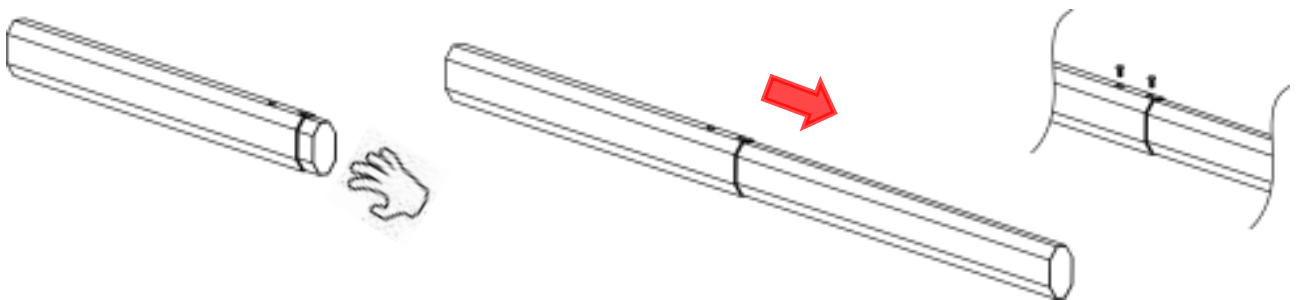

Figure 2-4A Connect the main boom with vice together by 2 screws
- 1) Pull the vice boom out from the main boom, then fastened by 2 screws, as shown in Figure 2-4A.